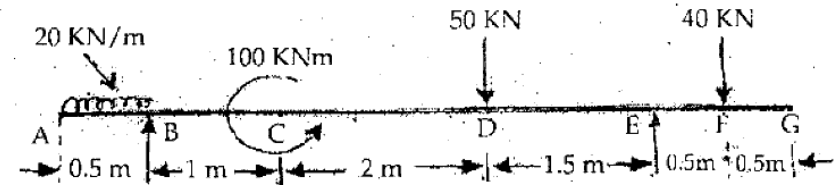

Fig. 1.2
5. Draw the bending moment and shearing force diagram for the beam as shown in Fig 1.2 20